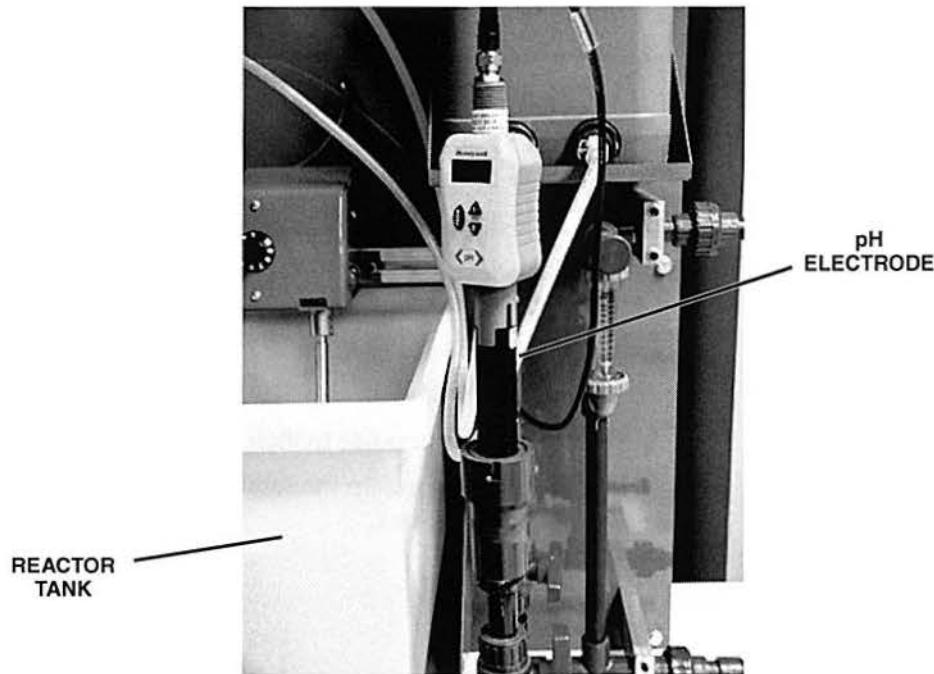

Figure 46. pH Electrode Returned to Outlet Side of Reactor Tank
- 16. Perform the following substeps to return the pH electrode to its previous location on the outlet side of the reactor tank, as shown in figure 46.